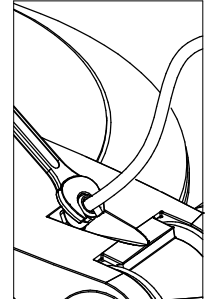

FIG. 4-2A
2. REMOVE EXISTING STEEL BRAIDED CONDUIT ASSEMBLY ON THE FIXTURE HOUSING AND BALLAST SIDE WITH A 11/16 WRENCH. (FIG. 4-2A)/(FIG. 4-2B)